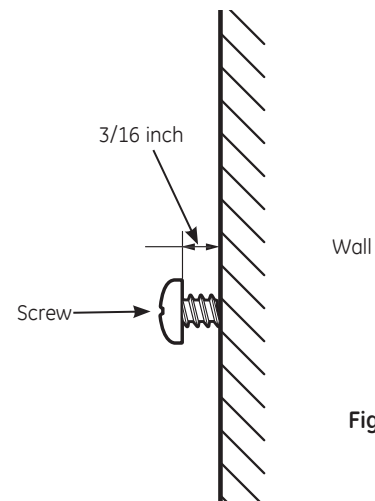

Fig. 6
3. Use the system as a template to mark screw hole locations where the screws are to be installed. Install screws into the wall, leaving 3/16 inch clearance between the head of the screw and wall (drill pilot holes if needed) (Fig. 6). Use anchors if mounting to drywall. Anchors require a 1/4" hole.